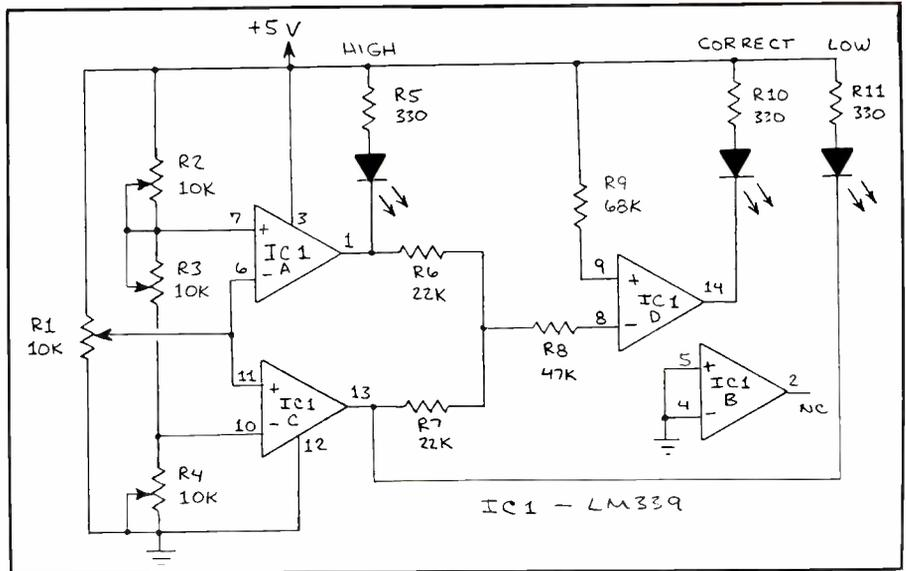

Fig. 1. A simple analog hi/lo game.
• **Analog Hi/Lo Game.** Shown in Fig. 1 is the schematic diagram of a simple hi/lo game you can quickly assemble from some potentiometers, resistors, LEDs and an inexpensive quad-operational amplifier. The circuit is known as a window comparator. In it,  $R1$  supplies an adjustable voltage to the circuit's input. Potentiometers  $R2$ ,  $R3$  and  $R4$  define the upper and lower limits of the window. The CORRECT LED lights when the input voltage falls within the window's limits. Otherwise, the HIGH or LOW LED turns on.